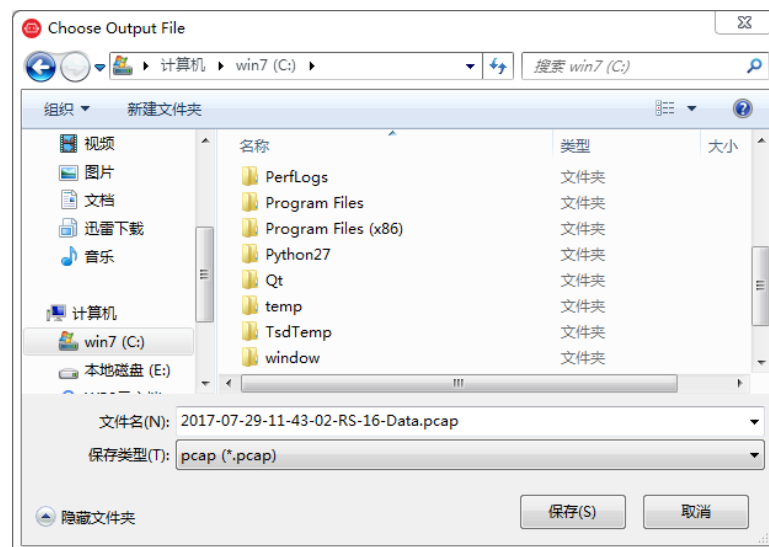

Figure C-5 R SView Record Saving Dialog.
2. In the “Choose Output File” dialog that pops up, set the save path and file name, and then click the **Save (S)** button (Figure C-5). RSView will start to write the packet file into the target pcap file. (Note: RS-Helios LiDAR will generate huge volume of data. As the recording time gets longer, the target pcap file will become larger. Therefore, it is better to save the recorded file to the HDD or SSD instead of a slow subsystem such as a USB drive or network drive.)